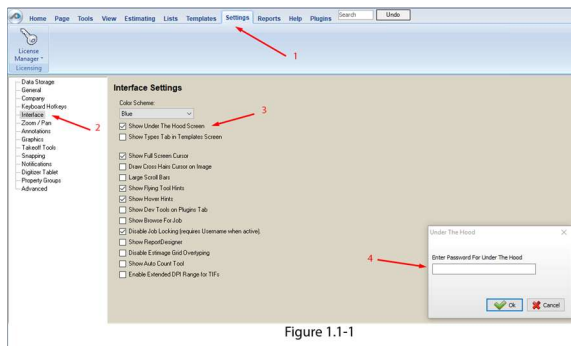

Figure 1
2. Click on **Settings** along the top ribbon bar (see #1 on Figure 1 below).
3. Select **Interface** from the options on the left (see #2 on Figure 1 below).
4. Click on **Show Under the Hood Screen** (see #3 on Figure 1 below).
5. For the password, please contact your PlanSwift representative. Enter the password (see number #4 of Figure 1) and click on **Ok**.